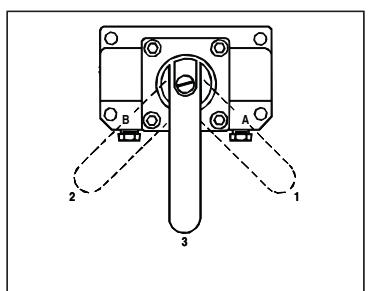

Figure 8
**VM33, VM33L, VM43, VM43L (Voir fig. 8)**